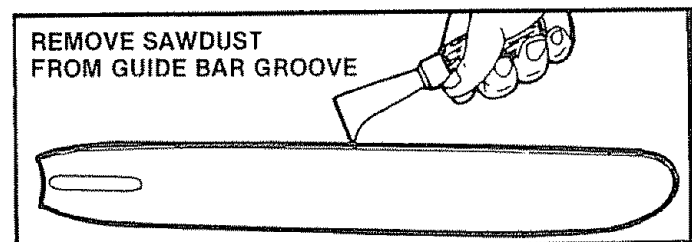

Figure 41
- c. Remove sawdust from the guide bar groove periodically with a putty knife or a wire. Figure 41.